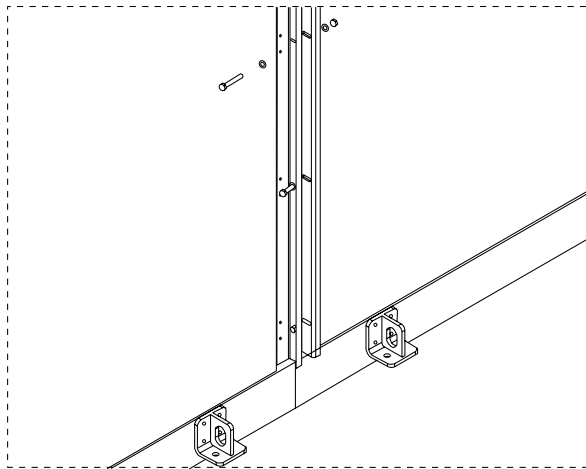

Figure 7: Secure the sections pulled together with bolts, nuts and washers. Do not over tighten.
8. With the sections pulled together, use the $\frac{3}{8}$ " x $2\frac{1}{2}$ " bolts, nuts and washers to secure the sections together along the sides as in Figure 7. Start at the bottom and gradually tighten all bolts to apply an even load along both sides and along the top (not at one place) until sections or gasket is compressed within $\frac{1}{4}$ " [6.4 mm].